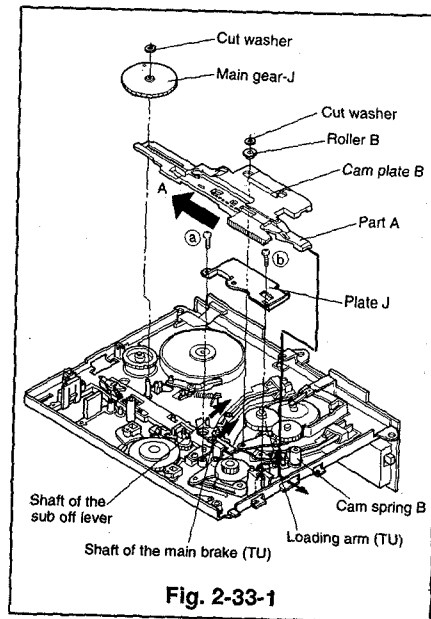
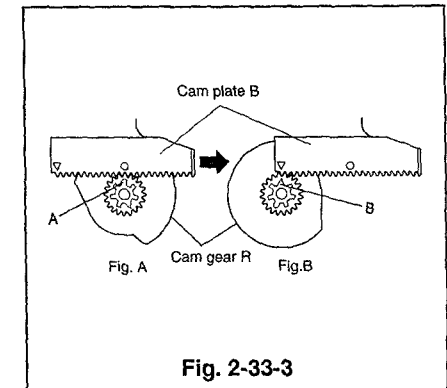

Fig. 2-33-1
Fig. 2-33-3
- ① Remove the two screws (a) and (b) to remove the plate J. (Refer to Fig. 2-33-1)
- ② Take off the cut washer fixed to the shaft of the loading arm (TU) to remove the roller B.
- ③ Remove the reel belt.
- ④ Remove the belt pulley. (Refer to Para. 2-28 for the removal method.)
- ⑤ Remove the loading motor assembly (which holds the motor holder). (Refer to Para. 2-29 for the removal method.)
- ⑥ Remove the main gear J. (Refer to Para. 2-30 for the removal method.)
- ⑦ Slide the cam plate B to the left (the direction shown by the arrow) to remove it.
- ③ Passing part A of the cam plate B under cam spring B insert it into the hole on the side of the main plate, as shown by the continuous line. (Refer to Fig. 2-33-1)
- ④ While keeping the rear section of cam plate B raised, align the cam plate B and the cam gear R so that the O mark on the cam plate B aligns with the part A on the cam gear R as shown in Fig. 2-33-3 (Fig. A). Still keeping the rear of cam plate B raised, slide it to the right until the Δ mark on cam plate B aligns with the part B on the cam gear R, refer Fig. 2-33-3 (Fig. B). From this position lower the rear of the cam plate B unto the already aligned loading gears TU and SP, refer 2 above. Shift the sub off lever and the main brake TU in the directions shown by the arrows to install them. (Refer to Fig. 2-33-1)
- ⑤ Fix the roller B to the shaft of the loading arm (TU) and secure it with the new cut washer.
- ⑥ Install the plate J and secure it with the two screws (a) and (b).
- ⑦ Install the main gear J. (Refer to Para. 2-30 for the installation method.)
- ⑧ Install the loading motor assembly (which holds the motor holder). (Refer to Para. 2-29 for the installation method.)
- ⑨ Install the belt pulley. (Refer to Para. 2-28 for the installation method.)
- ⑩ Fasten the reel belt. (Refer to Para. 2-28 for the installation method.)